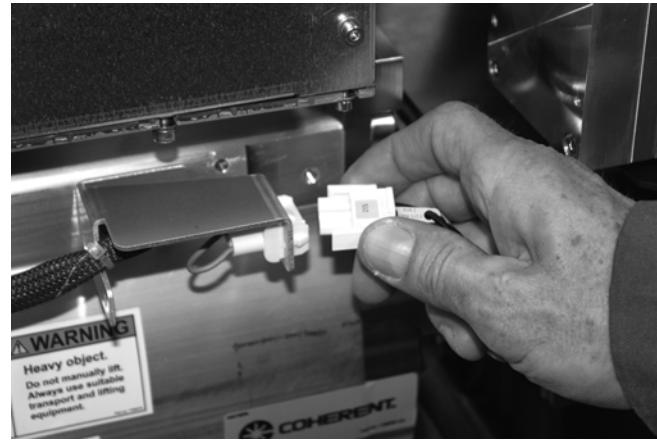

Figure 18: Disconnecting the tube overtemperature switch
17. Disconnect the power supply cables from the EMI housing ventilator (A).
18. Disconnect the tube overtemperature switch cable connection X12 (see Figure 18).